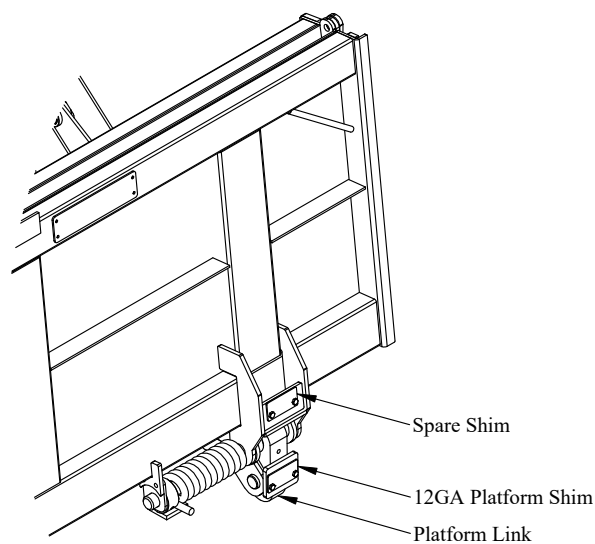

Figure 22: Platform shim location.
2. **Position** the liftgate so that the lift arms are touching the ground, but the platform is still folded (Figure 22).
4. **Replace** or **Add** shims to the platform links (Figure 22).